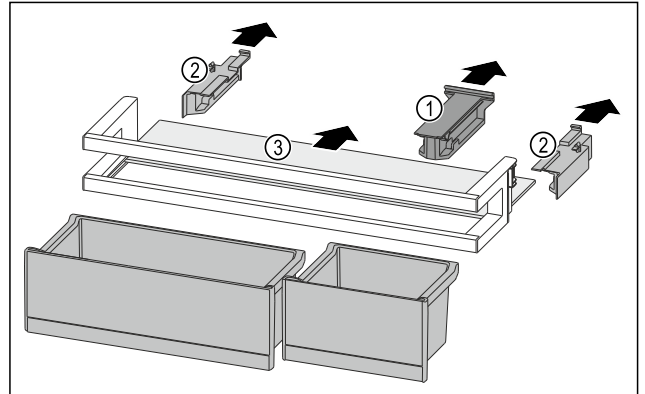

Fig. 118
- ▶ Pull off the holding part Fig. 118 (1).
- ▶ Pull off the side parts Fig. 118 (2).
- ▶ Remove the shelf Fig. 118 (3).